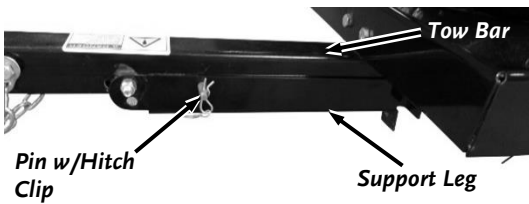

Figure 14
3. Rotate the Support Leg to the up (transport) position, align the holes in the Tow Bar and Leg, reinstall the Clevis Pin and secure with the Hitch Clip (**Figure 14**).